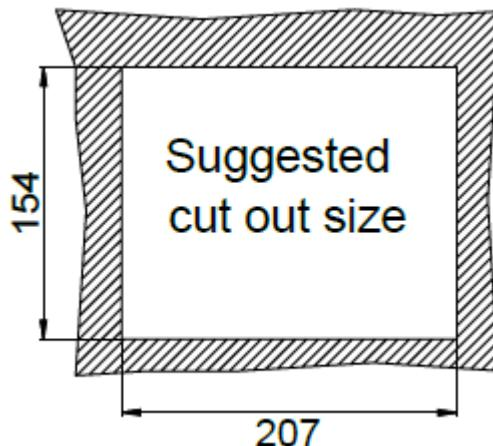
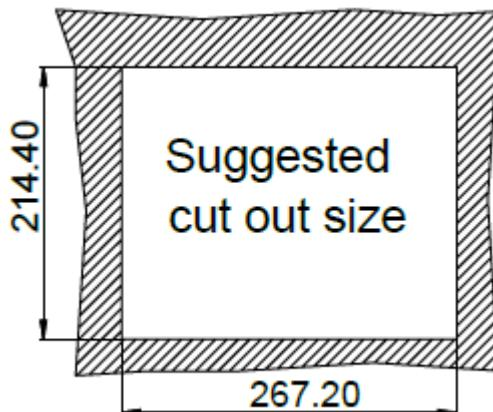

Figure 3-17: PPC-F08B-BT Panel Cutout Dimensions
Figure 3-18: PPC-F10B-BT Panel Cutout Dimensions
Step 3: Cut out a section of the panel that corresponds to the rear panel dimensions of the PPC-F08B/F10B-BT. The recommended cutout sizes are shown below (Figure 3-17 and Figure 3-18).